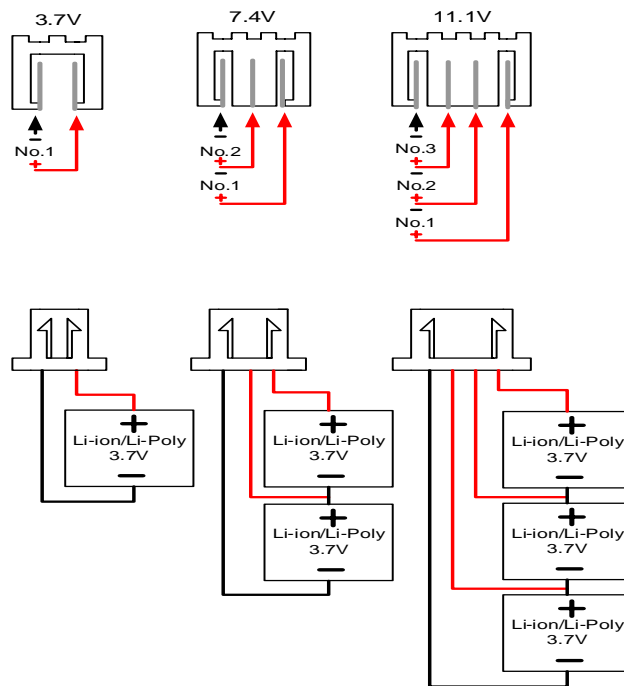

Fig.1 : The Scheme Diagram of the charging output ports.
3、 Connect the balance adapter of Li-Po battery to the corresponding charging output (please refer to Fig.1). Different ports are used to connect Li-Po battery pack or Li-ion cell. For example: